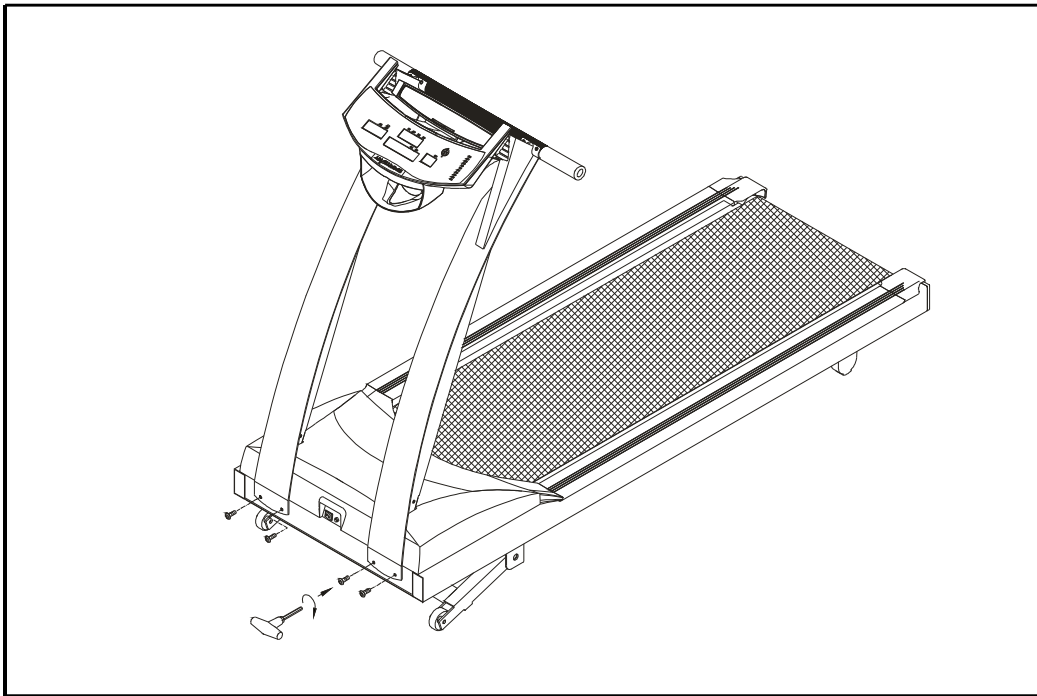

Fig.3
5. Secure the front posts with the four screws provided. Do not tighten yet. (see Fig. 3)